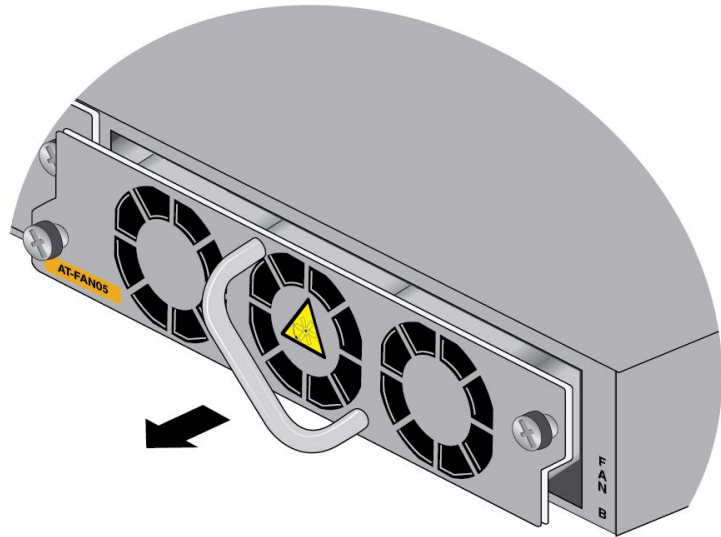

Figure 155. Disconnecting the FAN05 Module from the Switch
2. Carefully pull on the handle to disconnect the fan module from the internal connector in the switch. Refer to Figure 155.